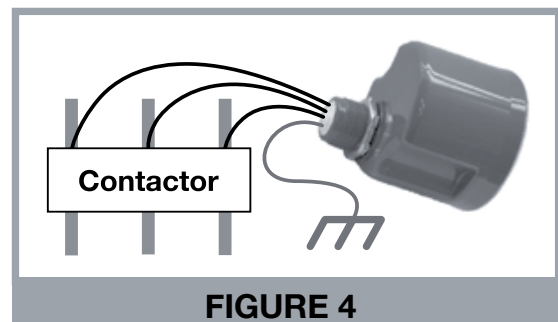

FIGURE 4
1. Install the lightning arrestor and connect line leads to the line side of the contactor as shown in Figure 4.